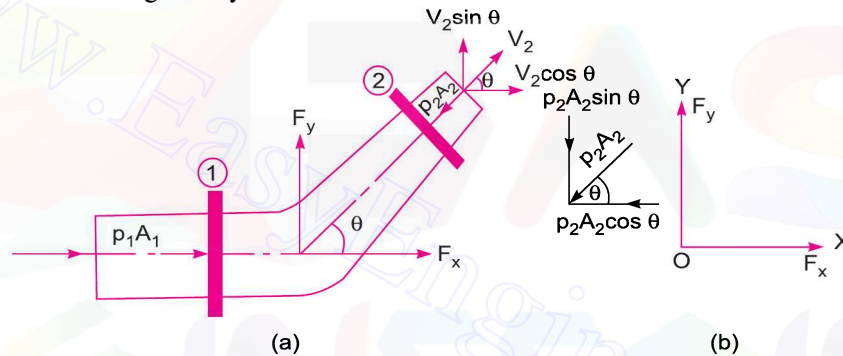

Fig. 6.18 Forces on bend.
Consider two sections (1) and (2), as shown in Fig. 6.18.